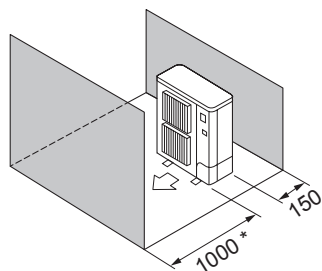

Fig. 2-11
- (5) Obstacles at front and rear only (Fig. 2-11)